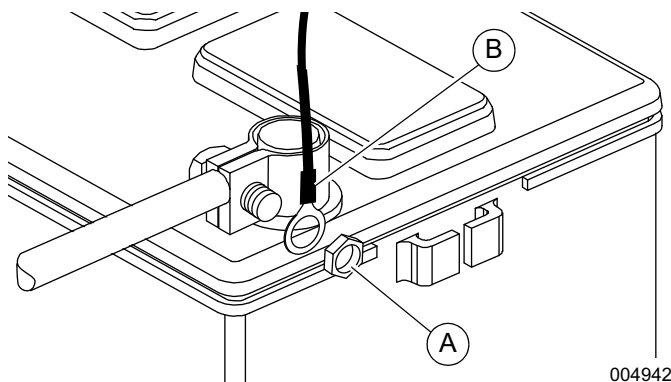

Figure 2. Attach Harness Power Wires
- See **Figure 2**. Loosen and remove nuts (A) from positive (+) battery terminal and negative (-) battery terminal screws on the battery cables. Slide harness power wires (B) over battery terminal screws and replace nuts. Tighten securely.